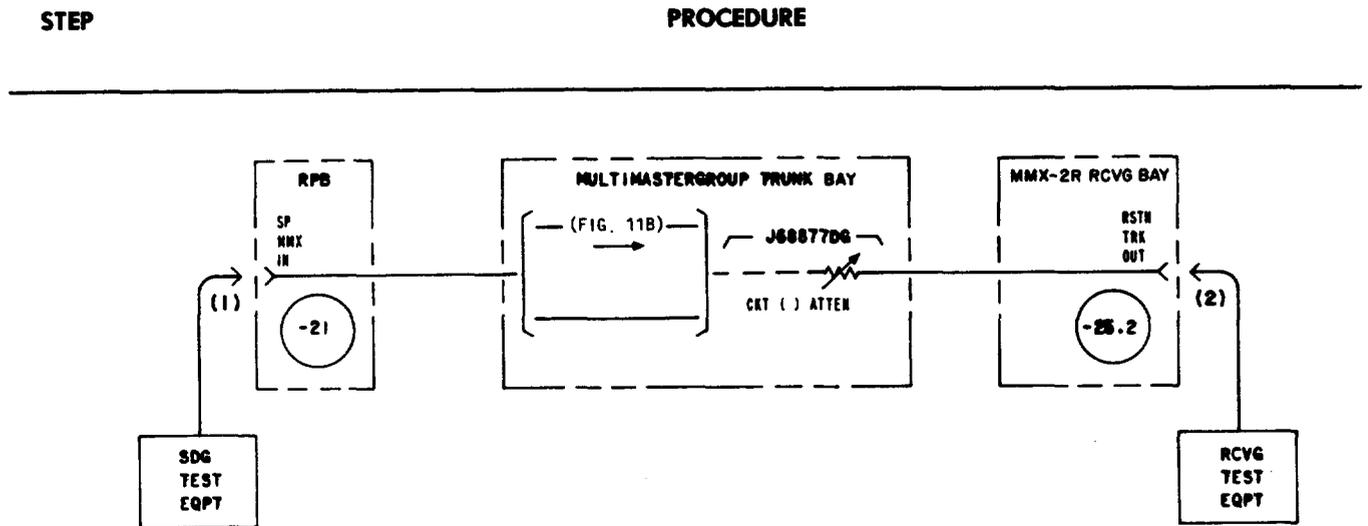

Fig. 4—Receiving Spare Mastergroup Bank Restoration Trunk
4	Connect the STE to the SP MMX IN jack in the restoration patch bay [patch (1), Fig. 4].
5	Connect the RTE to the RSTN TRK OUT jack [patch (2), Fig. 4].
**Note 1:** A zero-loss trunk (Fig. 9B) may be used in conjunction with this trunk. In this case, the zero-loss trunk should be tested as prescribed in Chart 9B. The zero-loss trunk is indicated in Fig. 4 by the designation Fig. 9B.